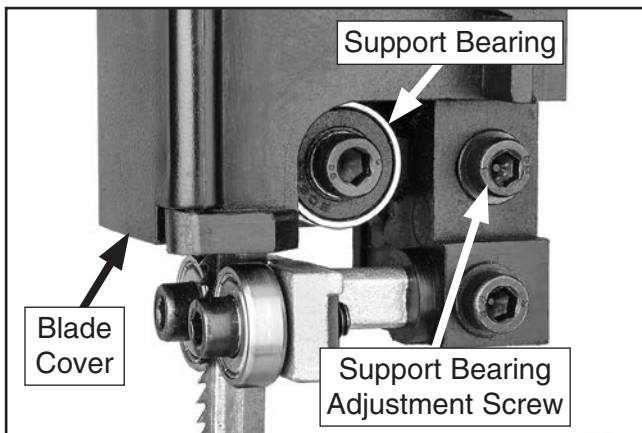

Figure 22. Upper support bearing assembly and controls.
2. Open blade cover and loosen support bearing adjustment screw (see **Figure 22**).